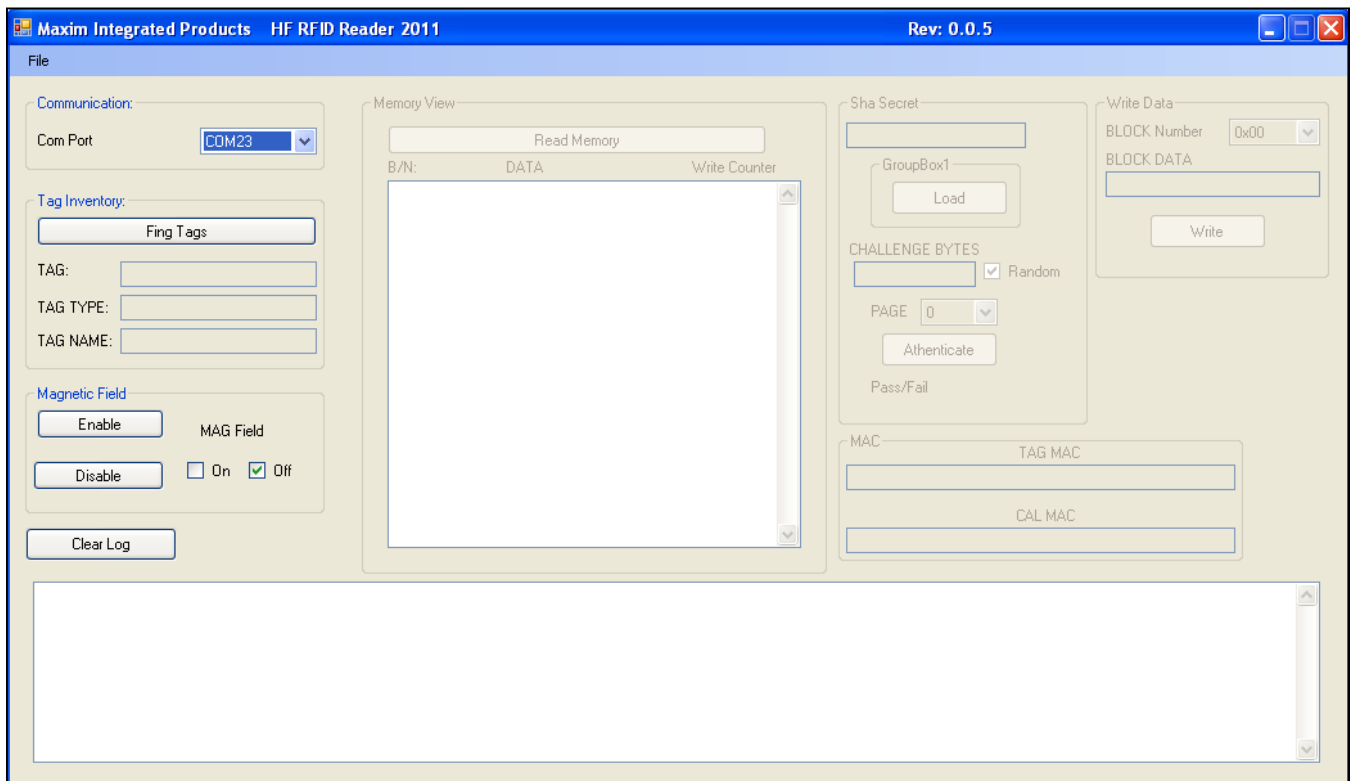

Figure 2. Select Com Port
- 6) When the **MAXIMHFRFID.APPLICATION.EXE** is running, select the COM Port associated with the USB device. See Figure 2.